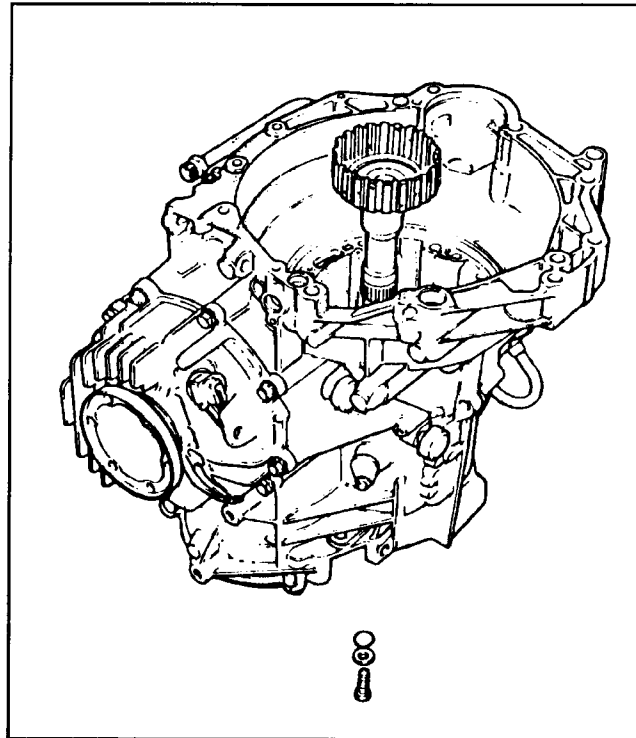

Figure 149
21. Install the small driveshaft into the large drive shaft and spline into the splines of the planetary carrier (See Figure 149).